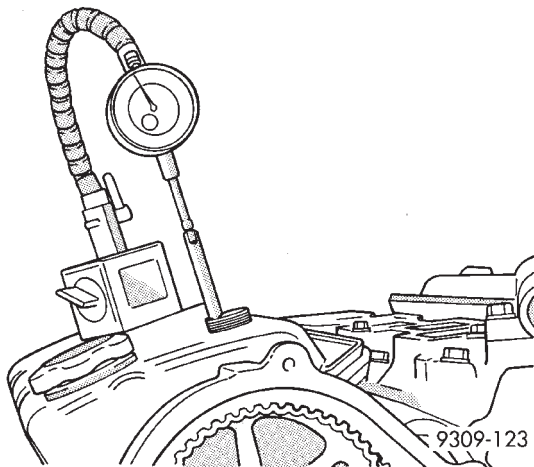

Fig. 14 Dial Indicator Locating TDC of Piston
(6) Holding the tensioner pulley against the belt, Install the tensioner into the housing and tighten to 28 N•m (250 in. lbs.).
(7) When tensioner is in place pull retaining pin to allow the tensioner to extend to the pulley bracket.
(8) Install a dial indicator in number 1 cylinder to check TDC of the piston (Fig. 14). Rotate the crankshaft until the piston is at exactly TDC. This is important for engine performance.
(9) With number 1 piston at TDC, hold the camshaft sprocket hex with a 36 mm (1 7/16 in.) wrench and tighten the camshaft bolt to 127 N•m (95 ft. lbs.). Repeat step on other camshaft.
(10) Remove dial indicator and install spark plug and tighten to 28 N•m (20 ft. lbs.).
(11) Remove camshaft alignment special tools 6642-A and install cam covers and O-rings. Tighten fasteners to 28 N•m (250 in. lbs.).
(12) Install timing belt covers. Refer to Timing Belt Cover Service outlined in this section.